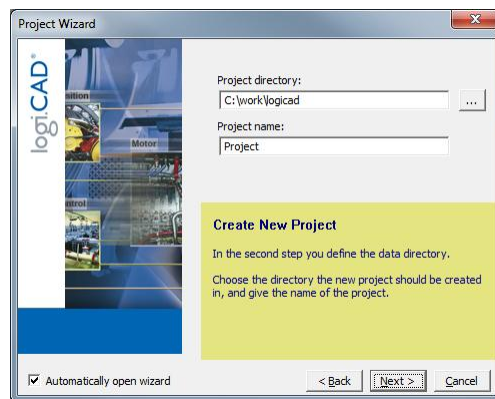

Figure 4: Project name and path
5. Specify the name of the project and the path where to store the project files, see Figure 4.